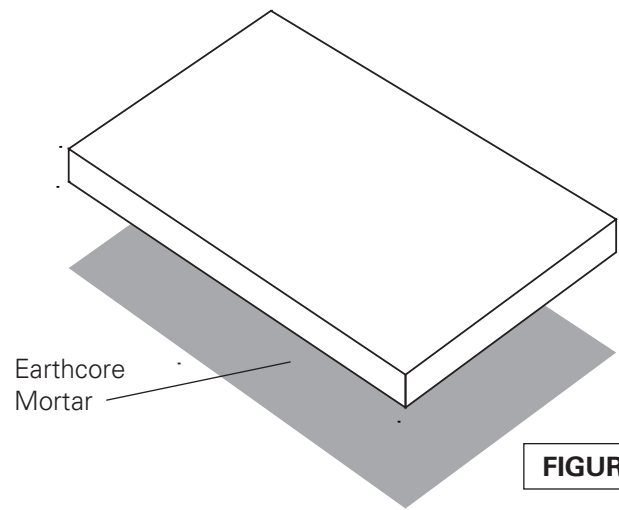

FIGURE 7
1. Begin assembly by setting the Vent-Free firebox's three inch (3") thick base plate flat on a suitable level surface at zero clearance. This surface can be a concrete slab or a wood floor system capable of 150 psf loading. The base plate can also be set on a concrete block raised base or on a raised wood platform either of which can be built upon a structural slab or upon a structurally suitable wood floor system. Do not set the base plate so that it is in span. **(Figure 7)**